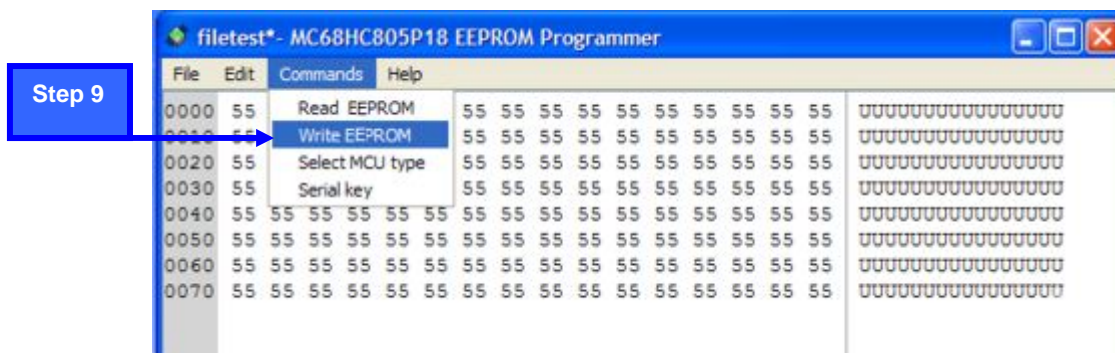

Figure 11
- ▶ Click on Write EEPROM button after editing data array. Step9; Figure 11